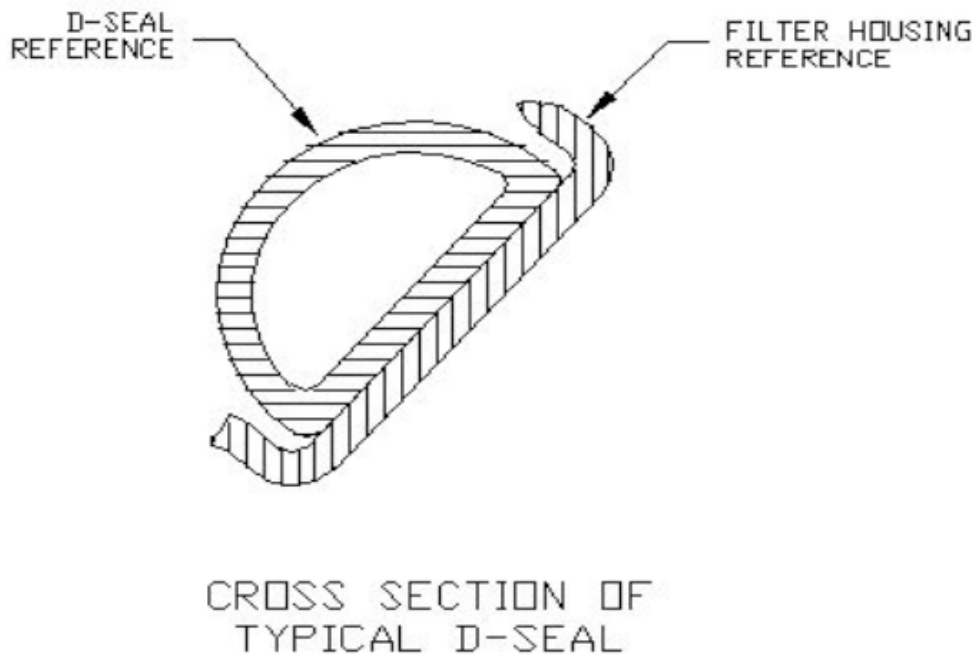

Figure 1 – D-Seal (Reference only)
- (1) Remove the filter element(s).
- (2) Cover the engine to prevent debris from falling into engine inlet.
- (3) Carefully inspect the D-seals (refer to Figure 1) for adhesion to mating surfaces, check for cracks, tears, or abnormal wear.
- (4) Note any areas of de-bonding, cracking or wear.
- (5) If de-bonding or looseness of seals is evident, refer to REPAIR PROCEDURE (Part B).
- (6) Job close-up.